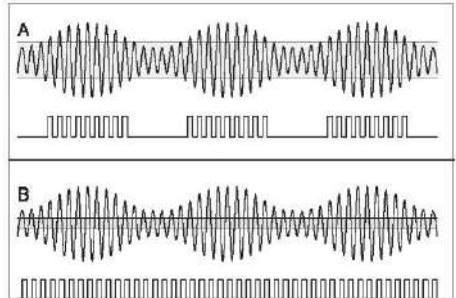

Fig. 4-8 Effects of different sensitivity when measuring the CW Frequency of an AM signal.
- If the counter triggers on noise, widen the hysteresis band with the 'variable hysteresis' function, i.e. enter a trigger level >0 V but $<V_{p-pmin}$. See Fig. 4-8.